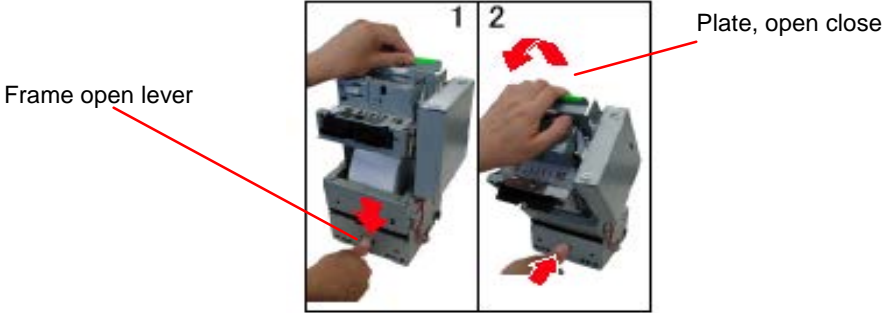

Figure A.1.1 Open and Close of Paper Roll Supply Module
2. Open the Paper roll supply module. (See Figure A.1.1.)